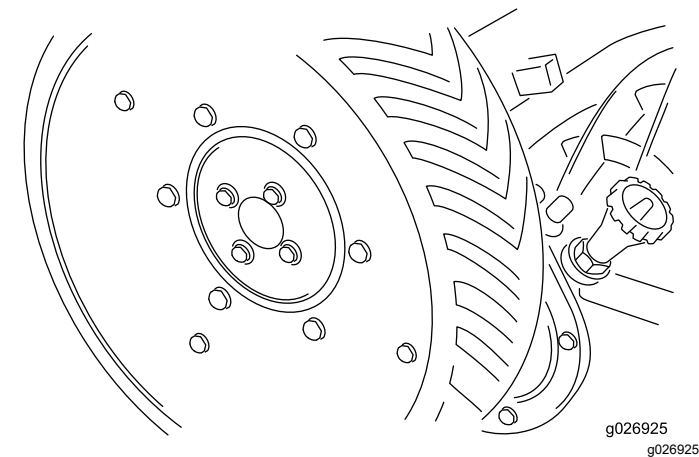

Figure 3
- Install the drive wheels with cap screws and lock washers (Figure 3).